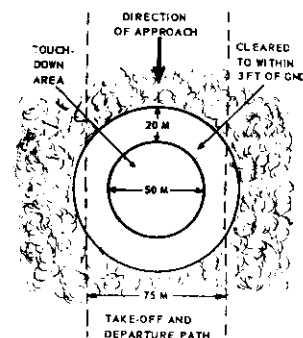

Figure 33. Landing zone for rotary-wing aircraft.
(1) An area of 50 meters in diameter is cleared to the ground.
(2) An area surrounding the cleared area, 20 meters wide, is cleared to within 1 meter of the ground.
(3) The completed LZ is a minimum of 90 meters in diameter (figure 33).